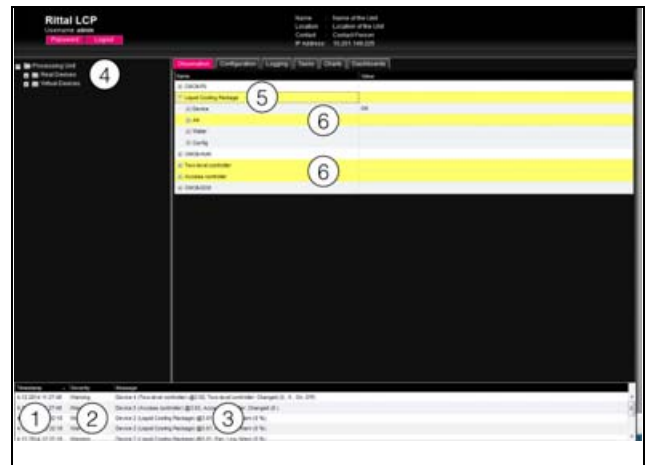

Fig. 95: Layout of message display
1. Timestamp: The date and time when the error occurred (fig. 95, item 1).
2. Severity: Severity of the error. A distinction is made between Warnings and Alarms (fig. 95, item 2).
3. Message: Error message in plain language (fig. 95, item 3).
- Left-hand screen section (navigation area): The symbol in front of the component on which the error occurred is shown in red in the tree view in the event of an alarm message, and yellow in the event of a warning message (fig. 95, item 4).
- Right-hand screen section (configuration area): On the **Observation** index tab, the entire component and the specific parameter to which the warning or alarm applies is shown in red or yellow (fig. 95, items 5 and 6).